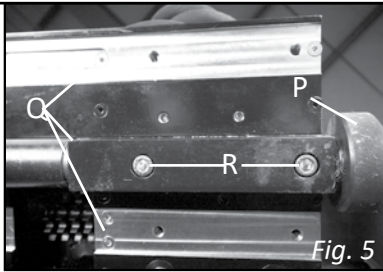

Fig. 5
- A. Lift machine and verify the wheel holders holding the Guide Wheels (P, Fig. 5) are attached in the correct Guide Wheel Slots (Q) for the diameter of pipe to be cut.